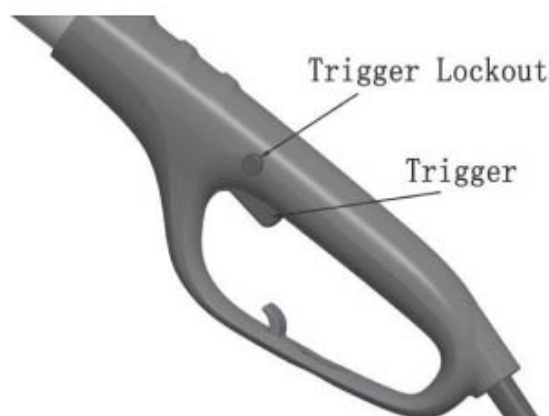

Figure 9
5. When ready to make a cut, press in trigger lockout and squeeze trigger **(See Figure 9)**. This will turn pole saw on. Releasing trigger will turn pole saw off. Make sure saw is running before starting a cut.